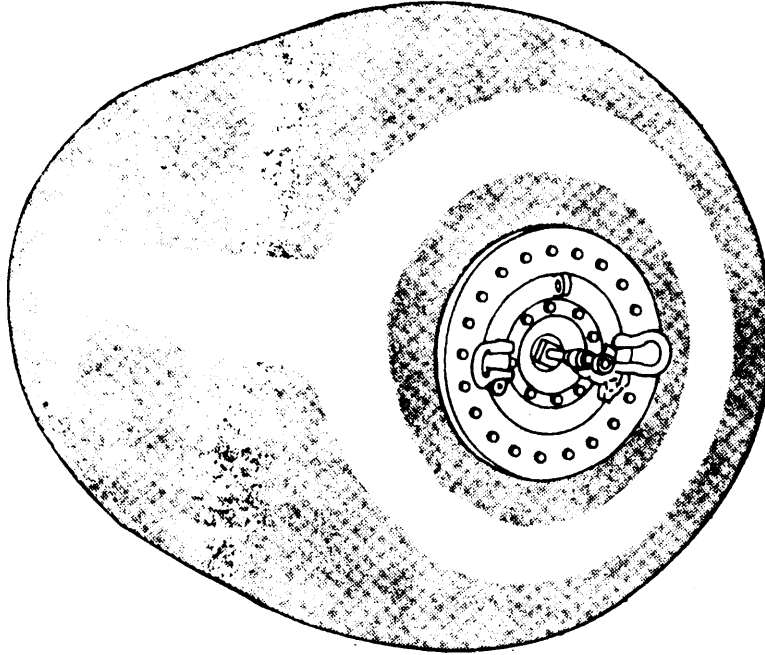

Figure 1-16. Collapsible Drum.
**1-21. COLLAPSIBLE DRUM.** (Refer to Figure 1-16.)